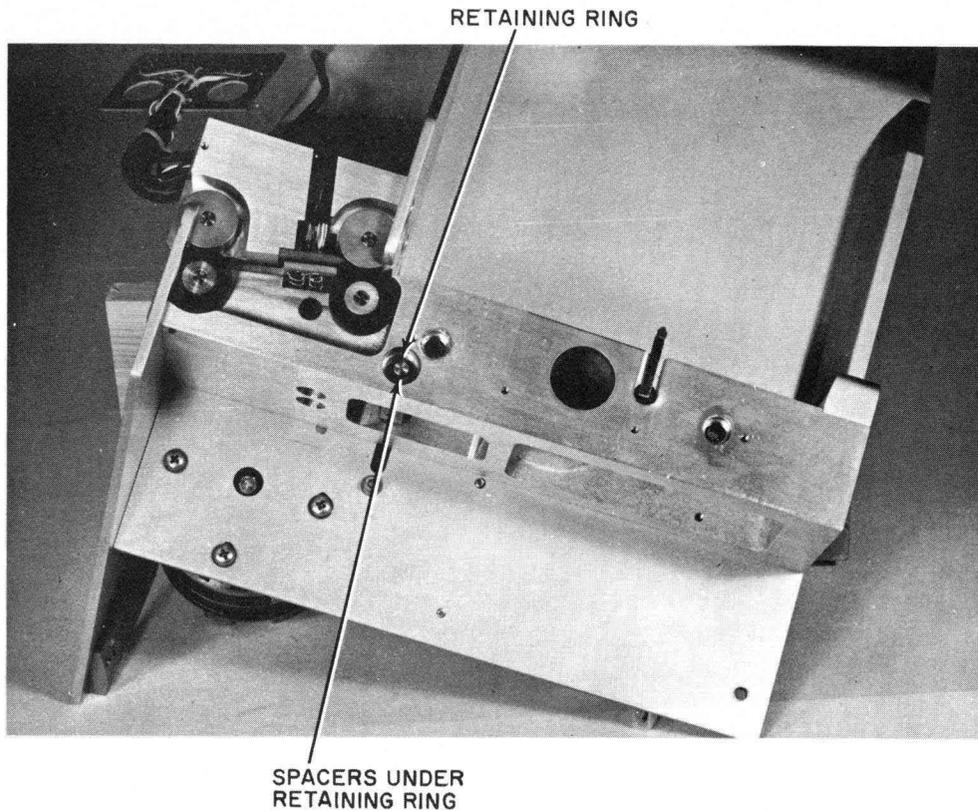

Figure 36. Top View Stacker Casting Assembly
6. Using a #2 retaining ring remover tool, remove the retaining ring from the top of the picker shaft, figure 36.
7. Remove spacers located under the retaining ring, figure 36.